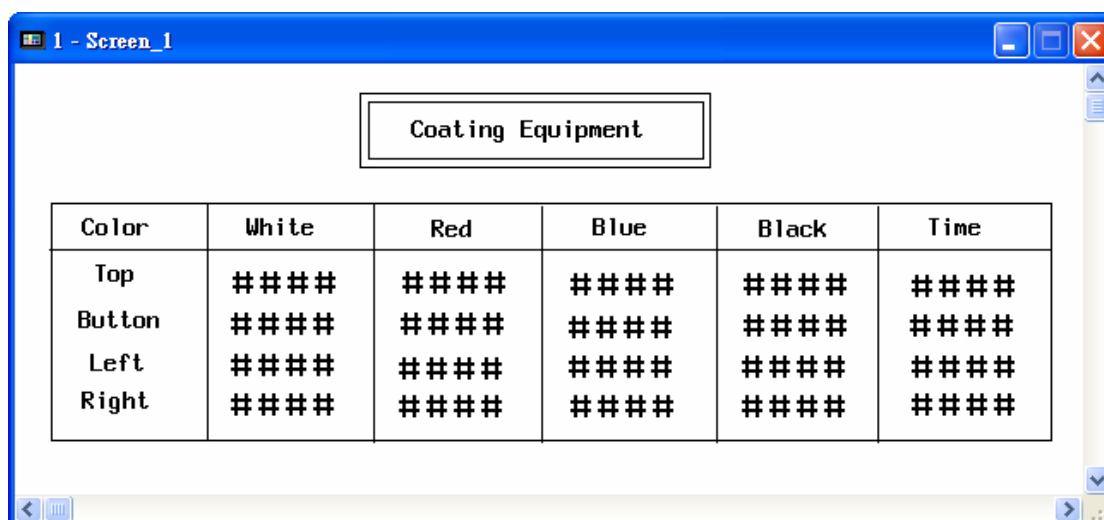

Figure 187. The Screen of Coating Equipment
- Then, a user can edit its application and save as \*.V6F. See Figure 187. In the example, [Numeric Entry] object is used to display the coating equipment data on HMI.